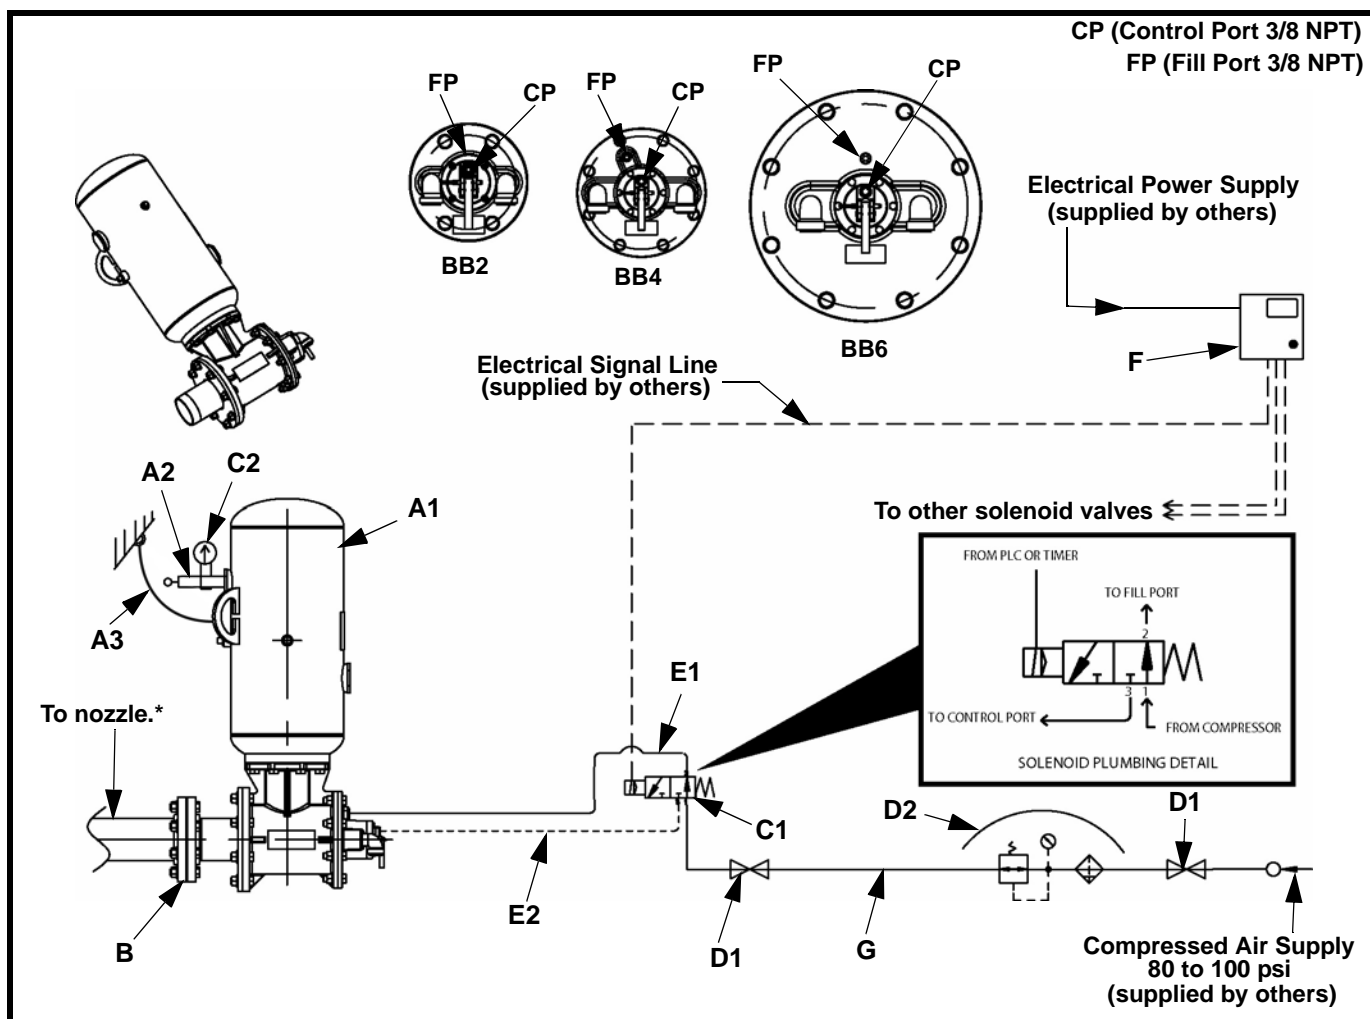

Figure 12. Plumbing Detail for Normally-Opened Solenoid Valve
3. Remove recessed hex-head screw from the valve’s fill port. See Figure 12 or 13.
- a. If using a normally-opened solenoid valve, connect the 3-way electric solenoid valve outlet port (2) to exhaust valve fill port. See Figure 12.